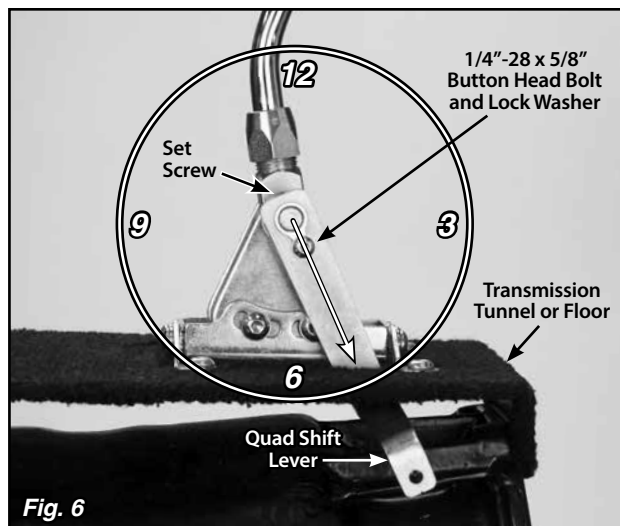

Fig. 6
Step 9: Make sure the shifter lever is in the Park position. Temporarily place the quad shift lever in position on the quad lever bushing as shown in **Fig. 6**. Check for interference with the driver side rear floor mount tab or the vehicle floor. With the shifter lever in Park, you want the quad shift lever to be as close to the 4:30 – 5:00 position as the floor mount tab will allow, without the quad shift lever touching the floor mount tab or floor.
With the quad shift lever in position on the quad lever bushing, install the 1/4"-28 x 5/8" button head bolt and lock washer into the bushing, and tighten with a 5/32" Allen wrench. **Fig. 6**